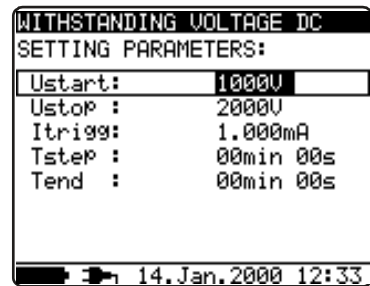

Fig. 19. Set-up menu in Withstanding Voltage function
- Press the **SELECT** key, Set-up menu appears on display, see the figure 19.